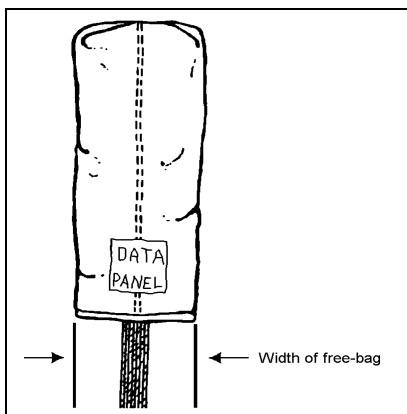

Figure 16.
Step 11.) Kneel on the trailing edge of the center cell of the canopy and center the middle seam of the center cell in the middle of the canopy bundle. "Cocoon" fold the bundle by spreading the center cell of the reserve canopy to the approximate width of the reserve free-bag and tuck the outer edges of the material under the bundle. (See Figure 16.) Prepare the free-bag in accordance with the manufacturer's instructions supplied with harness/container system.